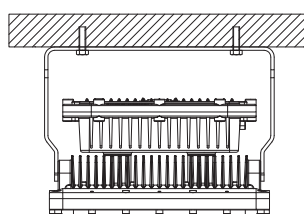

Fig. 3
9. The fixture can be adjusted facing down 90° from vertical = Lens horizontal facing down on ceiling position. (Figure 3)